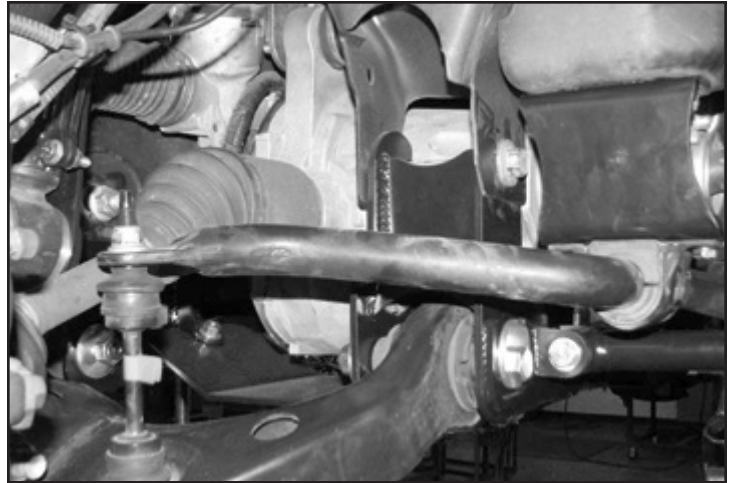

FIGURE 62 - STEP 62
62. Install the sway bar end to the factory lower control arm using the factory end links. **SEE FIGURE 62**